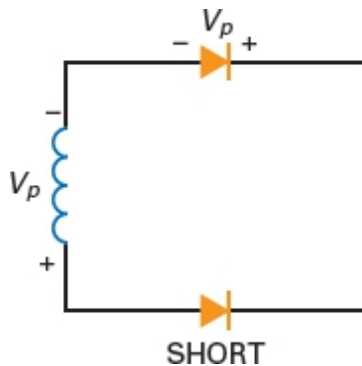

Figure-62 Peak inverse voltage in full-wave rectifier
- Figure-62 shows the essential part of a full-wave rectifier needed to calculate the peak inverse voltage.